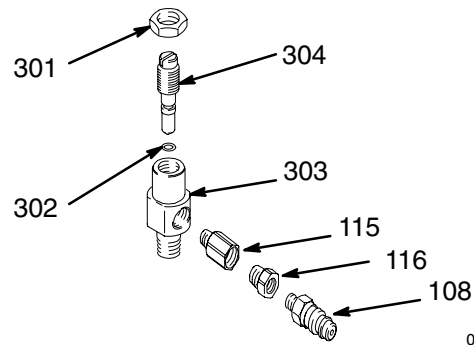

Fig. 2
1. Loosen the locknut (301) of the restrictor valve (114) located at the top of the elevator. Turn the adjusting needle (303) fully clockwise to decrease speed. See Fig. 2.
2. Connect the air line to the elevator pin fitting. Slowly turn the adjusting needle (304) counter-clockwise to raise the pump. When adequate speed is obtained, tighten the locknut (301).